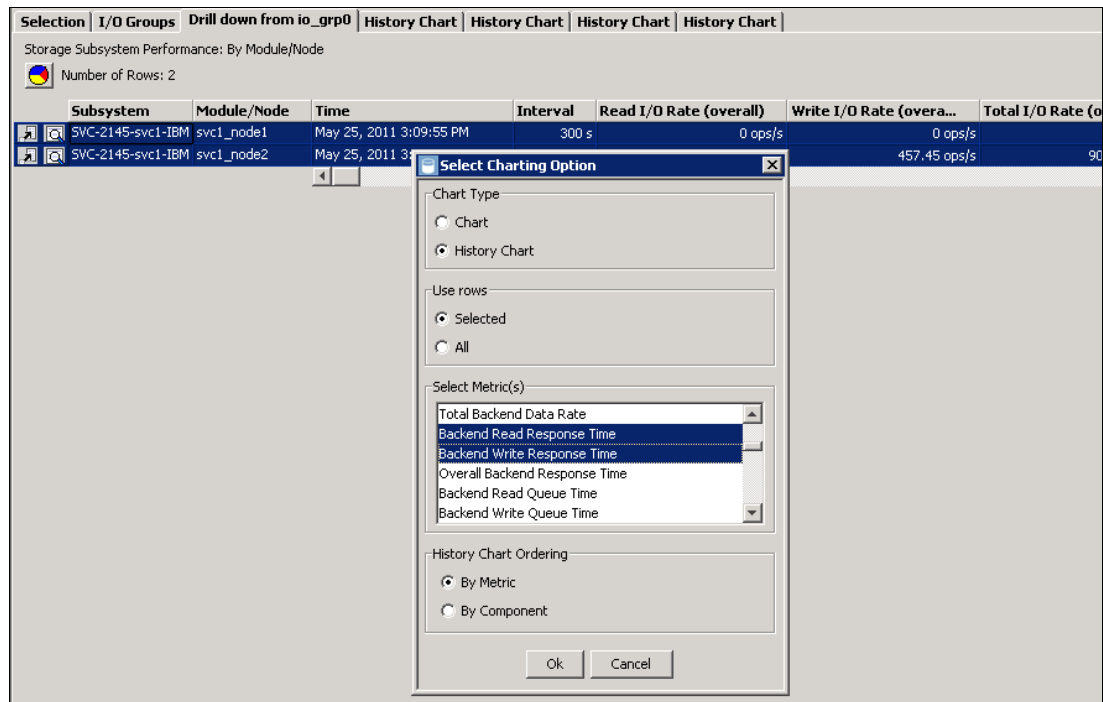

Figure 13-26 Response time selection for the SAN Volume Controller node
2. In the Select Charting Option window (as shown in Figure 13-26 on page 389), select the **Backend Read Response Time** and **Backend Write Response Time** metrics. Then, click **OK** to generate the report.